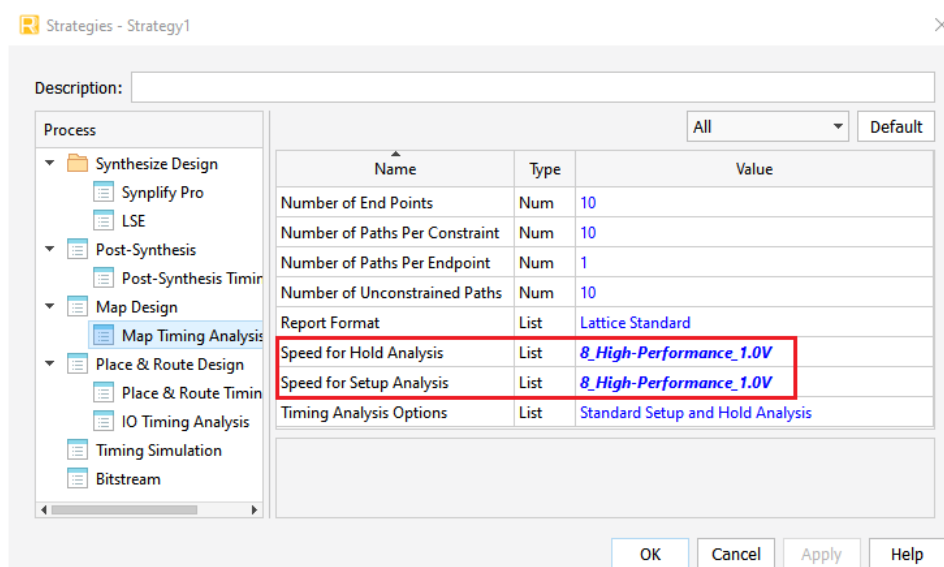

Figure C.91. MAP Analysis Setting for Node System Bit File Generation
10. Click the Strategy and go to **Map Design > Map Timing Analysis**. Select the highlighted settings as shown in Figure C.91.